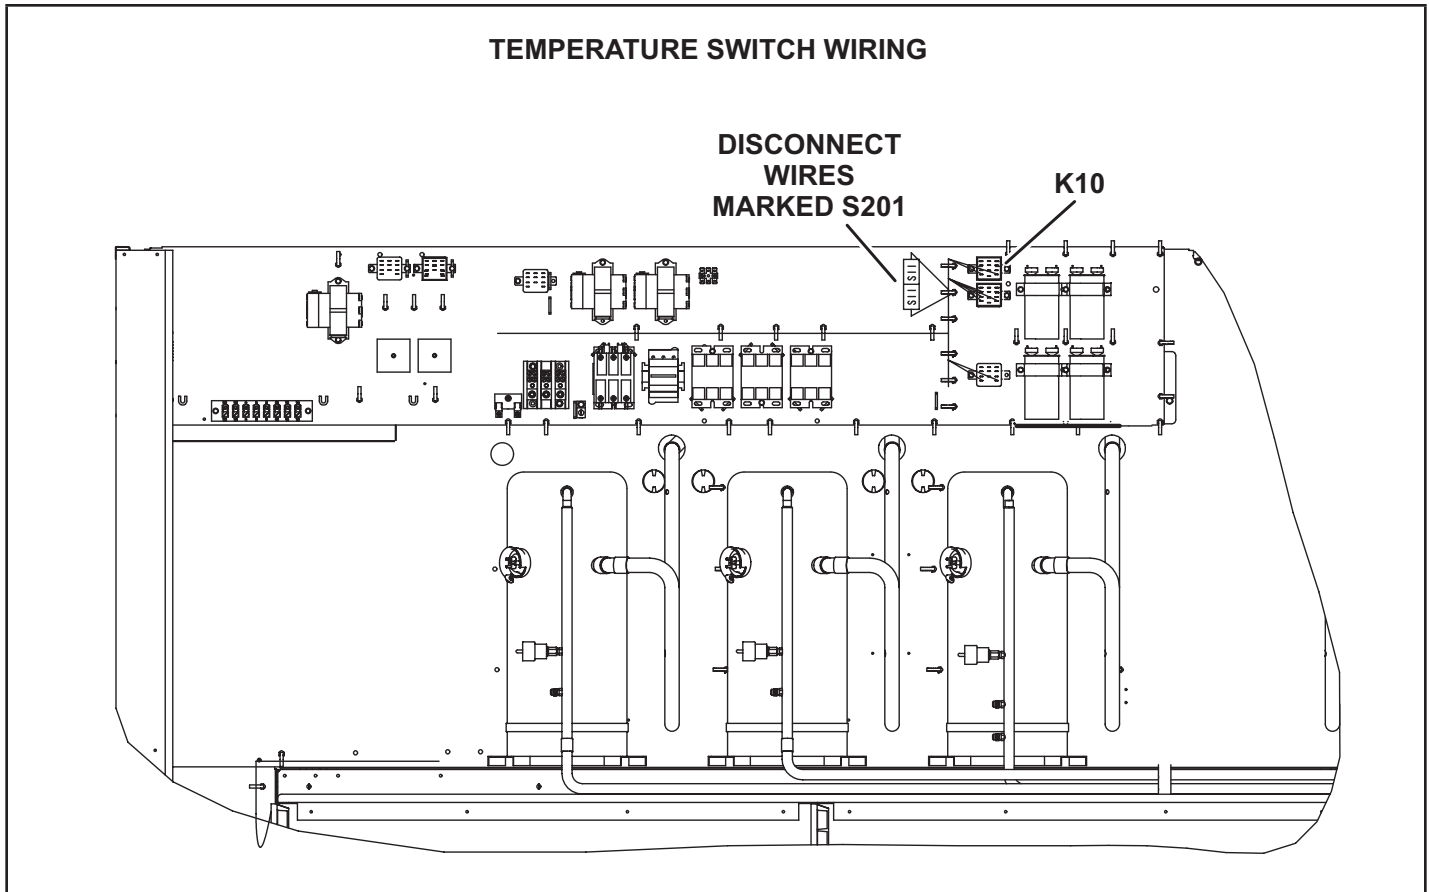

FIGURE 3
- 2 - Disconnect male and female terminals from wires marked "S201" near K10 relay. See FIGURE 3.